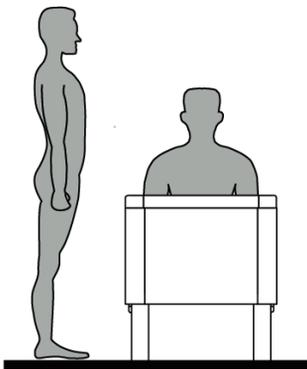

Fig 2
2. Raise the bath to the most comfortable height for the carer to provide assistance (fig 2), by pressing the bath up icon.